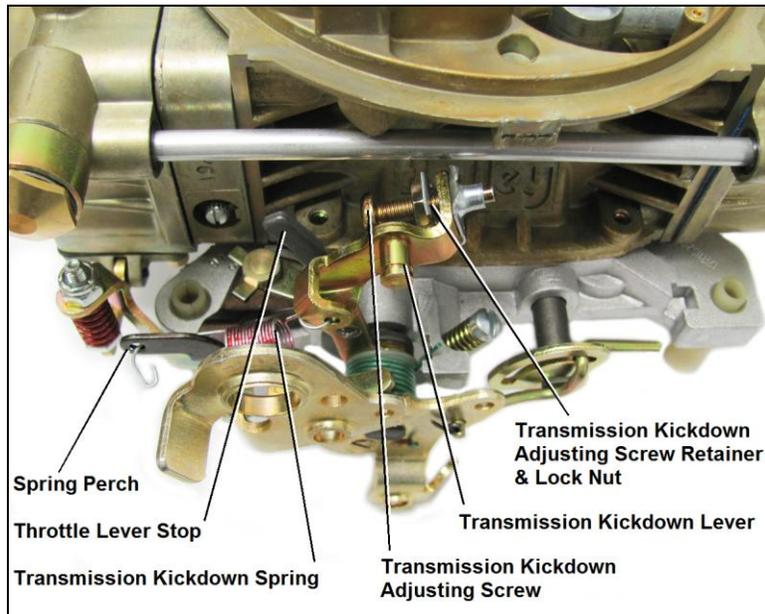

Figure 1
2. Insert the transmission kickdown screw with the retaining clip on the transmission kickdown lever (Figure 1).
4. Install the transmission kickdown spring between the transmission kickdown lever and spring perch on the bracket (Figure 1).